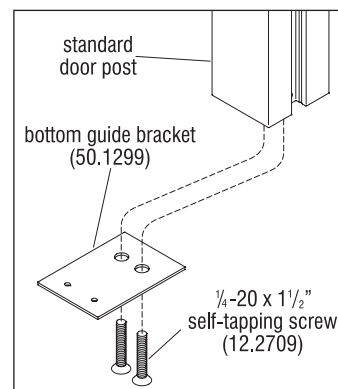

Figure 1 - Guide Bracket to Door Post Detail
8. For both door posts, install the bottom guide bracket onto each door post using two $\frac{1}{4}$ -20 x $1\frac{1}{2}$ " self-tapping screws (12.2709) (Figures 1 & 4).